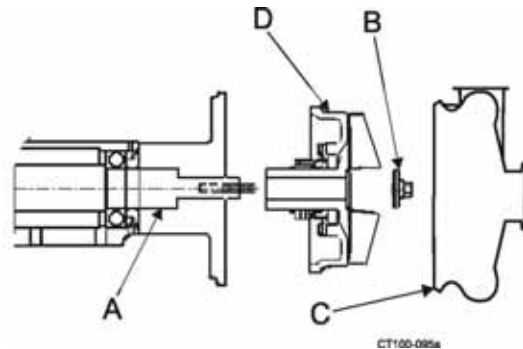

Figure 61 - Installing Impeller Assembly
11. Install the impeller key. (Figure 61, item A).
12. Install the O-ring on the impeller retainer bolt. (Figure 61, item C).
13. Install impeller retainer nut and tighten. (Figure 61,